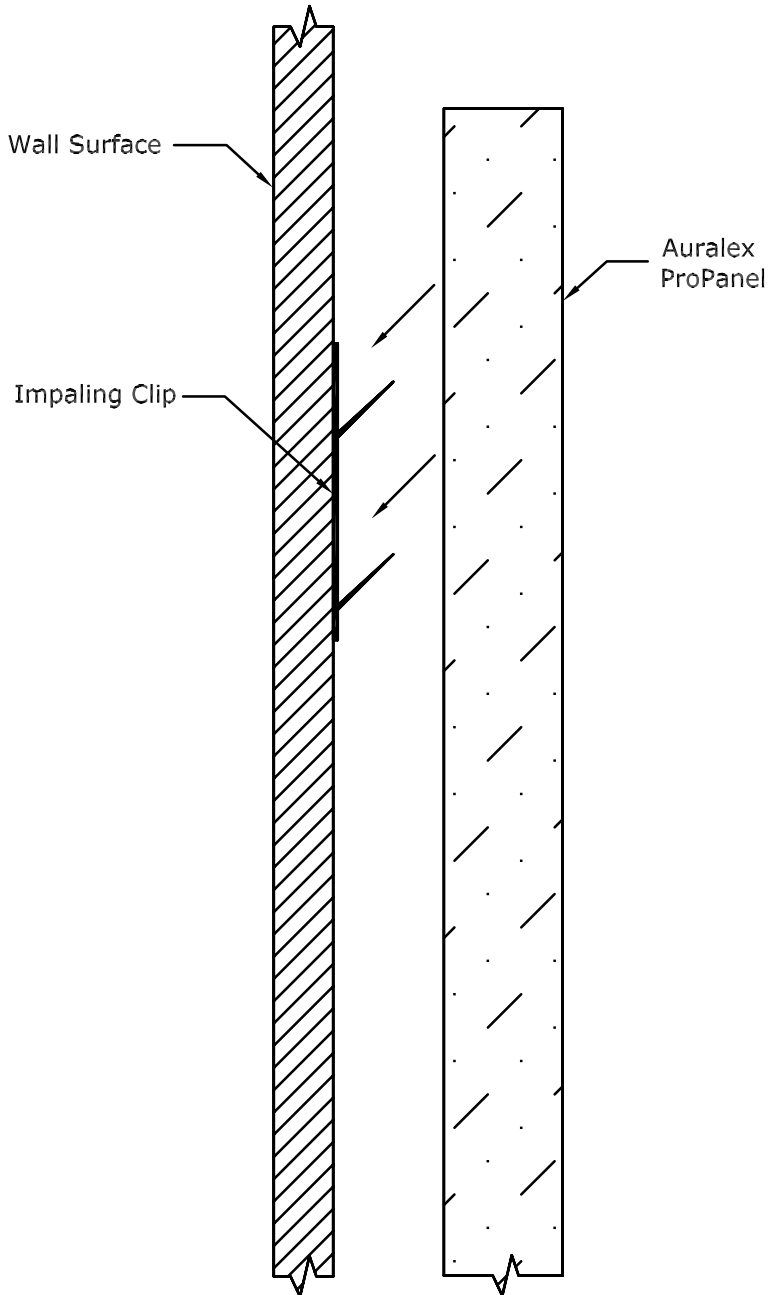

Figure 1.2
2. Fasten impaling clips to the wall using drywall screws, concrete anchors or shots and pins for concrete block or pre-cast concrete walls using the guide below. Place the impaling clips 4" from the intended edge location and spread them evenly across the panel. (*see Figure 1.2*)